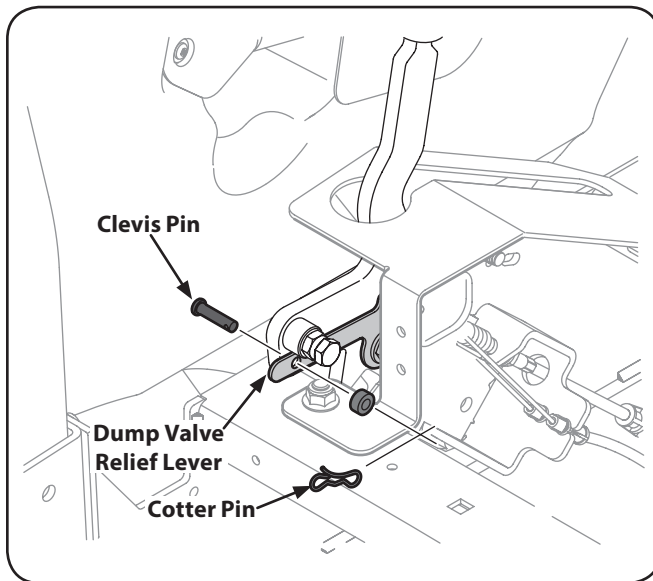

Figure 3-3
5. To release the parking brake, flip the seat forward and locate the cotter pin and clevis pin that secure the dump valve relief lever to the parking break handle. See Figure 3-3.